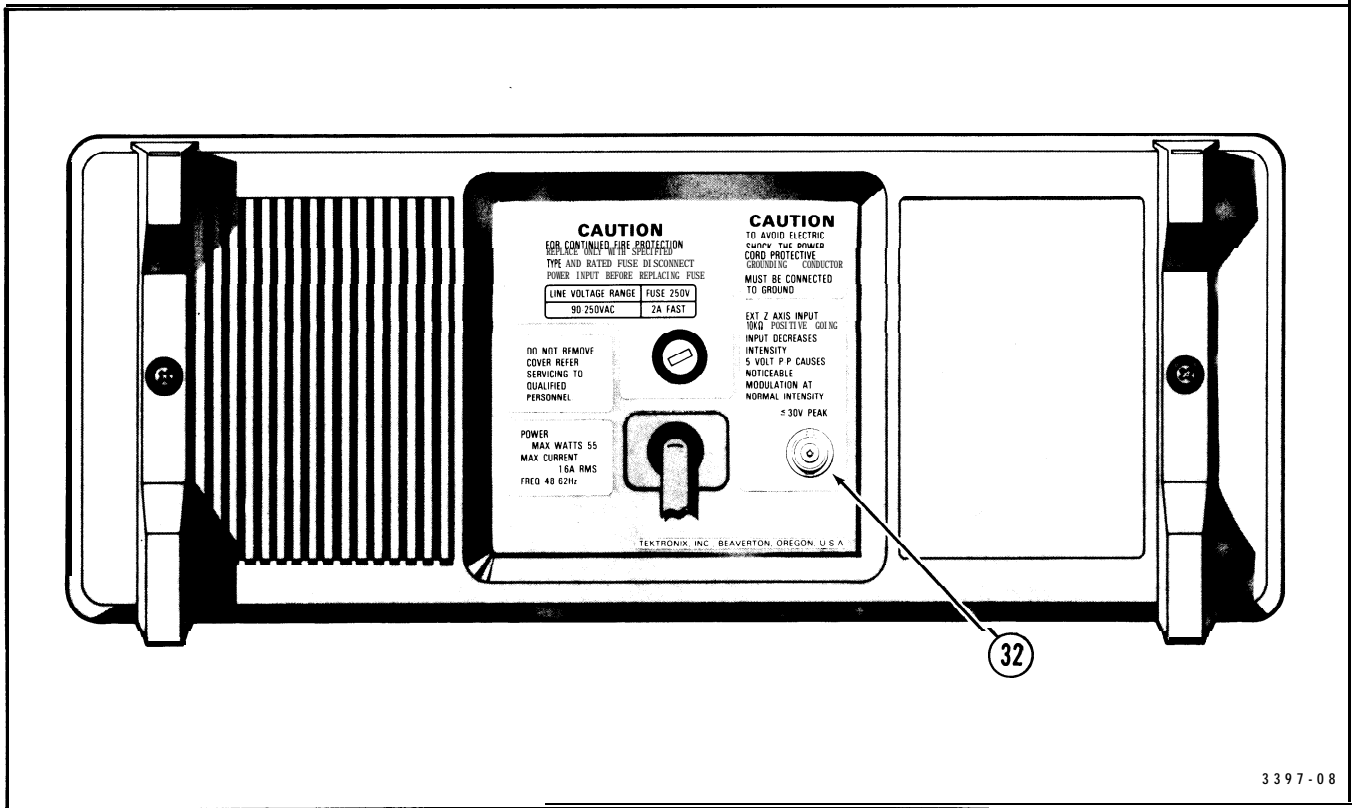

Figure 7. Rear-panel connector.
Refer to Figure 7 for location of item 32.
- ③2 EXT Z AXIS Connector-Provides a means of connecting external signals to the Z-axis amplifier to